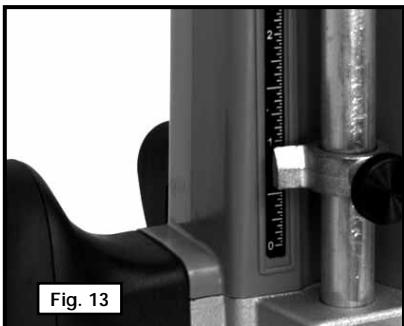

Fig. 13
5. Loosen the depth rod-locking knob (K) Fig. 9, and raise the depth rod until the indicator aligns with the graduation representing the desired depth of plunge (The example in Fig. 13 shows the setting for 1" plunge). Tighten the depth rod-locking knob.